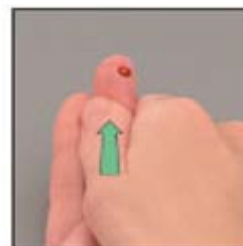

Figure 3
c. With the thumb of your opposite hand, massage or “milk” your finger until a **large drop of blood forms.** (Figure 3).